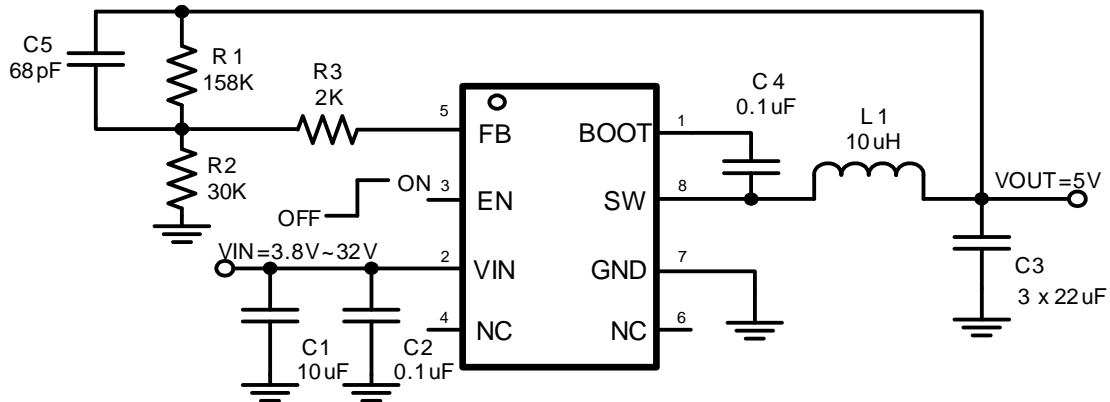

Figure 12. 24V Input, 5V/2A Output
The SCT9320 features external programmable output voltage by using a resistor divider network  $R_1$  and  $R_2$  as shown in the typical application circuit Figure12. Use equation (11) to calculate the resistor divider values.